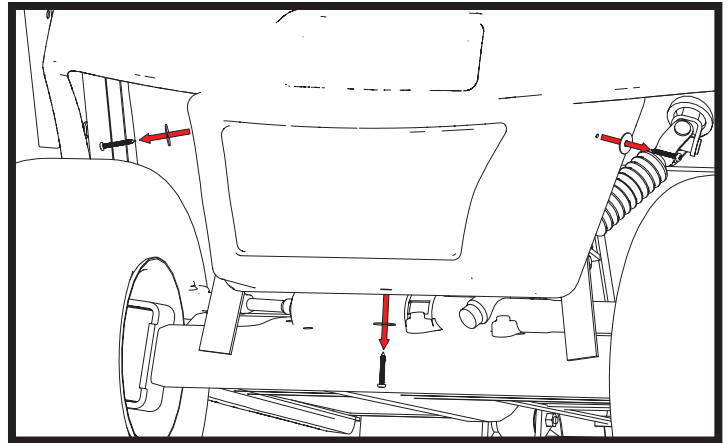

Fig. 1
Remove three (3) screws that secure the plastic front bumper and remove the front bumper from the vehicle as shown in Figs. 1 & 2.